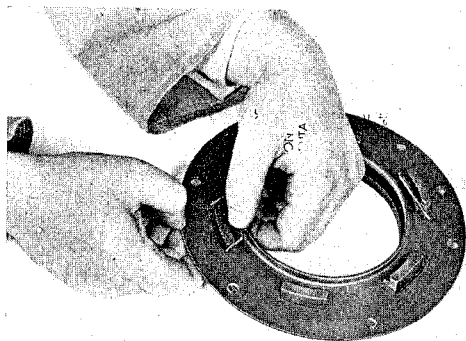

Fig. 258
2. Insert the hooks of the tensioners into the counter plate. Raise the counter plate from pressure plate slightly and press the tensioner over the spring carrier (Fig. 258).